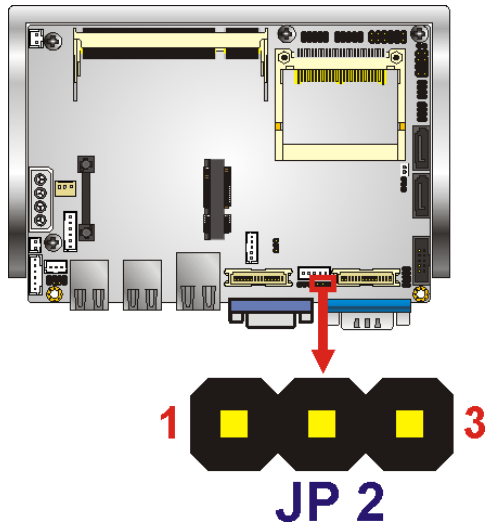

Figure 4-4: Audio Power Source
- Jumper Location:** See Figure 4-4